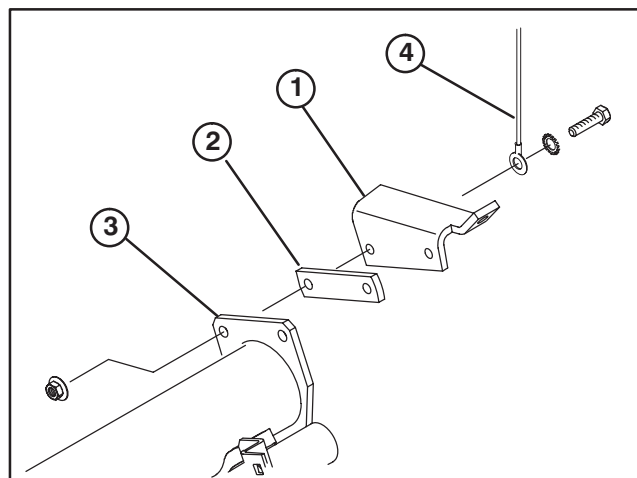

Figure 8
31. Mount adjustment bracket, clutch bracket spacer and wire harness ground wire to jackshaft support bracket with (2) capscrews, (1) external tooth lockwashers and (2) flange locknuts as shown in figure 8.